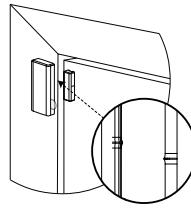

Figure 3: Device and magnet position on door and door frame
2. Place the device on the frame of a window or door and place the magnet on the moving surface of the door or window itself, directed according to the location marks. See Figure 3.